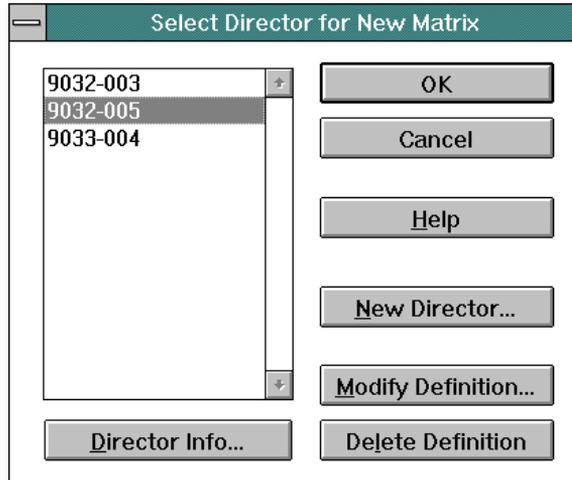

Figure 136. *Select Director for New Matrix* Dialog Box
2. Select the *New Configuration Matrix* option from the *File* menu. The *Select Director for New Matrix* dialog box appears (Figure 136). The dialog box contains a list of all configured Directors supported by the Console.